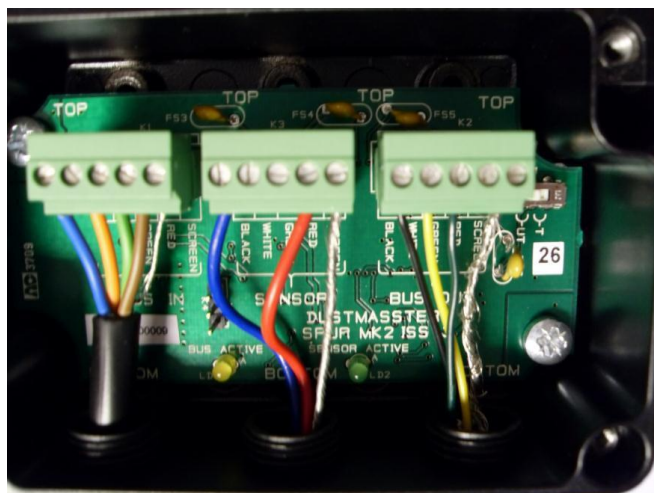

Figure 11: SPUR unit connections.
**At Spur:** follow the wiring as shown in **Figure 11**.